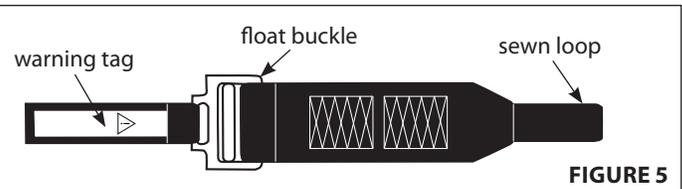

FIGURE 5
1. Hold float buckle so warning tag faces upward. **SEE FIGURE 5.**